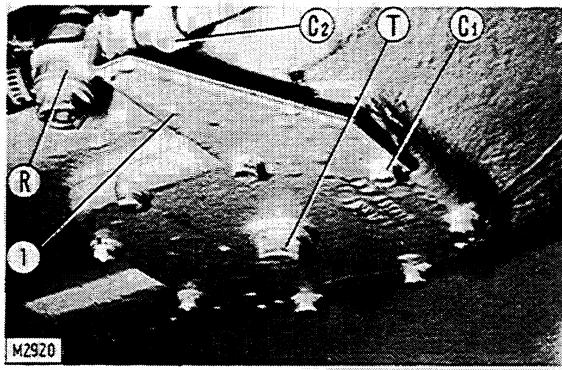

Fig. 6 - Bottom view of oil pan on S15B excavator.
- Remove screws (C1) and detach drain tap bracket (1, fig. 6).